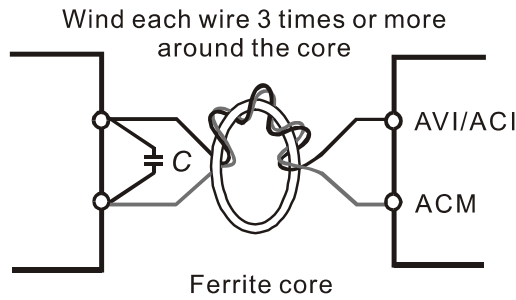

Figure 6-1
- ☑ If the analog input signals are affected by noise from the drive, connect a capacitor and ferrite core as shown in Figure 6-1 below.